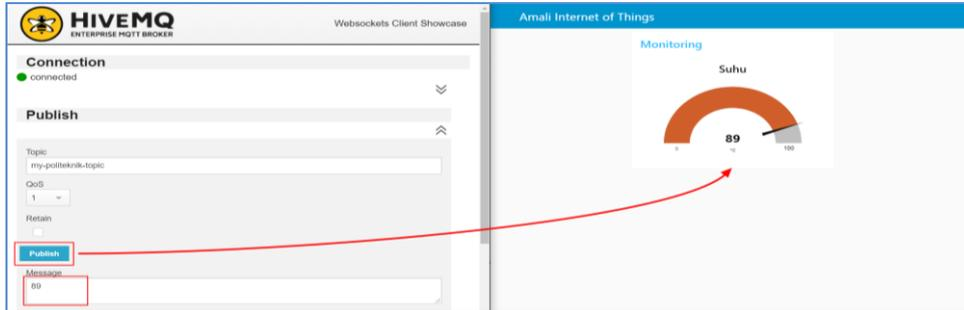

Figure B24
25. Try changing the publish value (for example: 89) and observe the changes on the gauge meter on the Node-RED Dashboard. Print screen the layout from your HiveMQ Websocket Client and Node-RED Dashboard as in Figure B24. Paste it in Table 2 as a result.